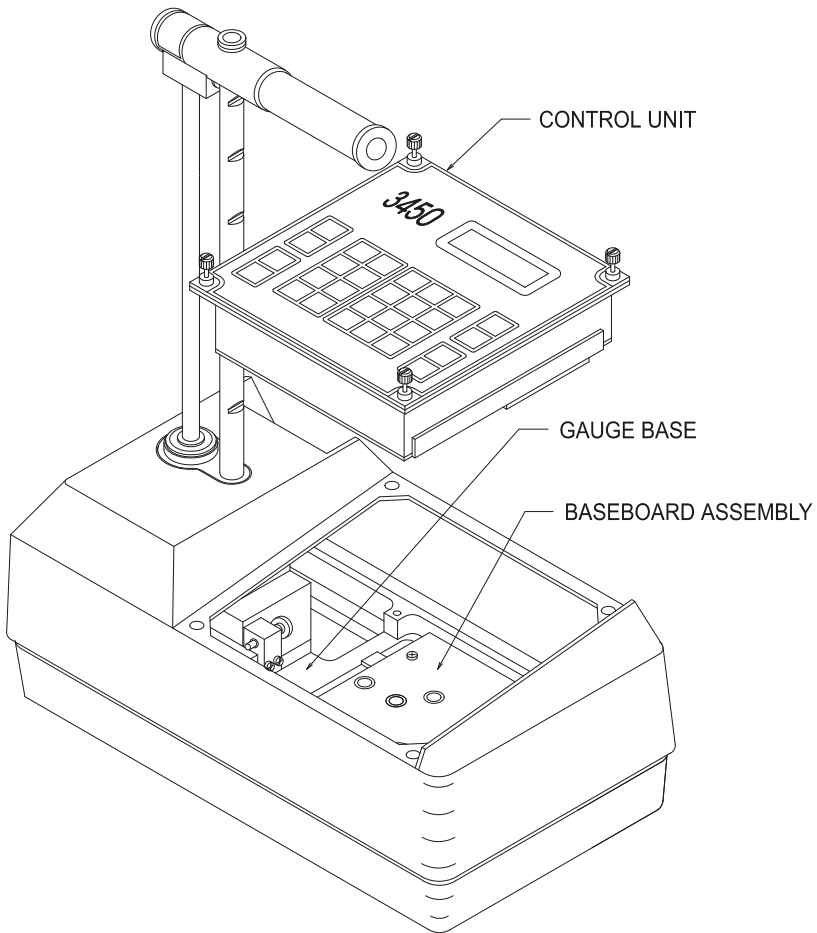

Figure A-4. Performing a Leak Test
- ✓ Loosen the four captive screws that secure the control unit, and remove the control unit from the gauge (Figure A-4).
- ✓ Look into the interior of the gauge and locate the baseboard assembly attached to the gauge base. The baseboard assembly consists of printed circuit (PC) boards in an aluminum housing.